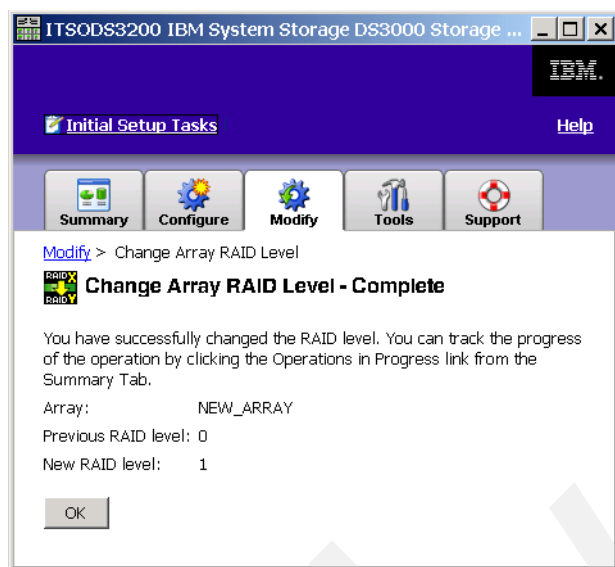

Figure 11-26 RAID level change confirmation
6. The final window (Figure 11-26) summarizes your RAID level change. Click **OK** to return to the Modify tab.